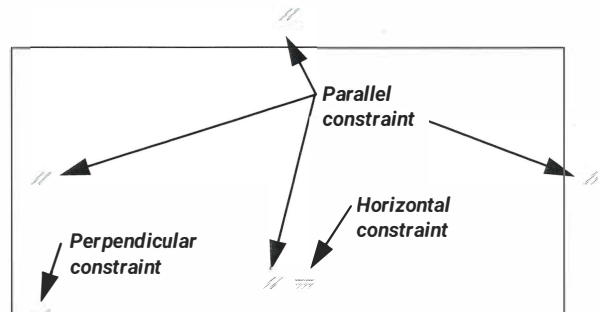

Figure 4-4
3. Select the objects that you want to constrain. The constraints are applied as shown on the rectangle in Figure 4-4.